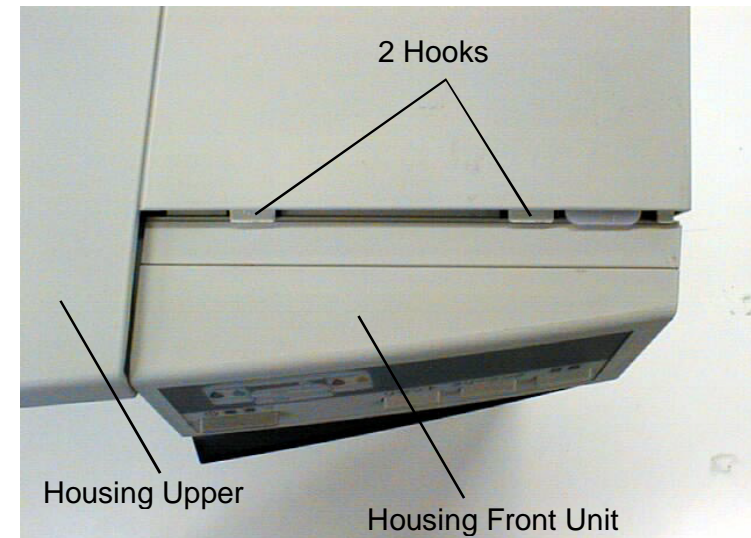

Figure 4-6. Position of Hooks(located both right and left side)
6. Insert a minus driver to 2 airspace (B), located both right and left of the front printer and remove the hooks which are connecting "Housing Assembly Upper" and "Housing Lower". (Refer to Figure 4-6)